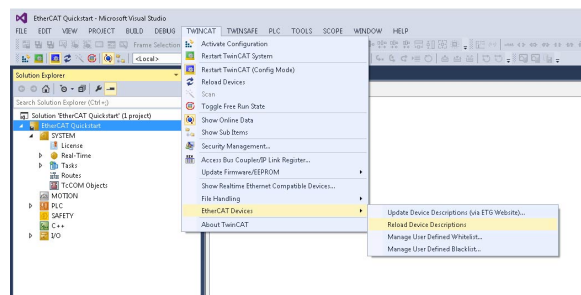

Figure 12. Reload Device Descriptions Pulldown Menu
4. Go to **TwinCAT > EtherCAT Devices** and select **Reload Device Descriptions** (see Figure 12).